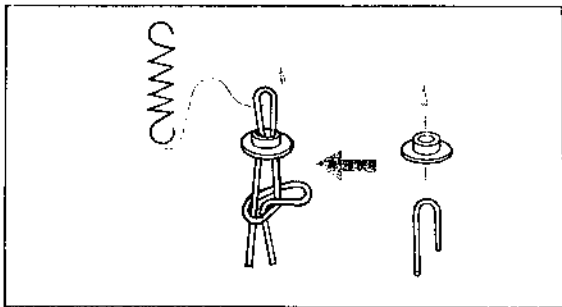
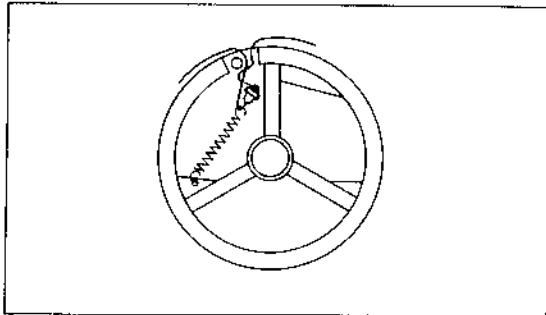

Fig. 2-8. Detail of dial cord finish
Fig. 2-9. End of dial cord stringing
5. Pass the doubled end of the cord through the eyelet (See Fig. 2-8), then hook it to the spring as shown in Fig. 2-9.
6. Tighten the cord, then squeeze the eyelet so that the spring is under tension. Make a knot in the cord end to keep it from slipping out of the eyelet. See Fig. 2-8.